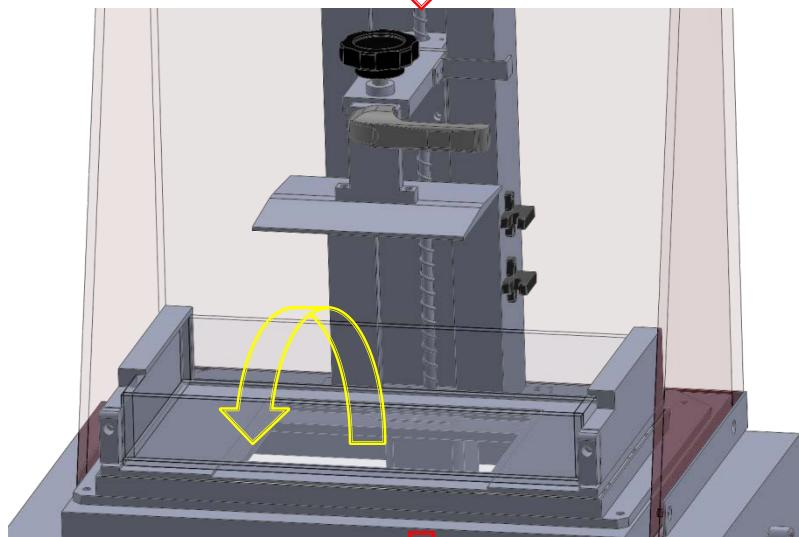

Figure 2
2. Remove the VAT in **Figure 2**.